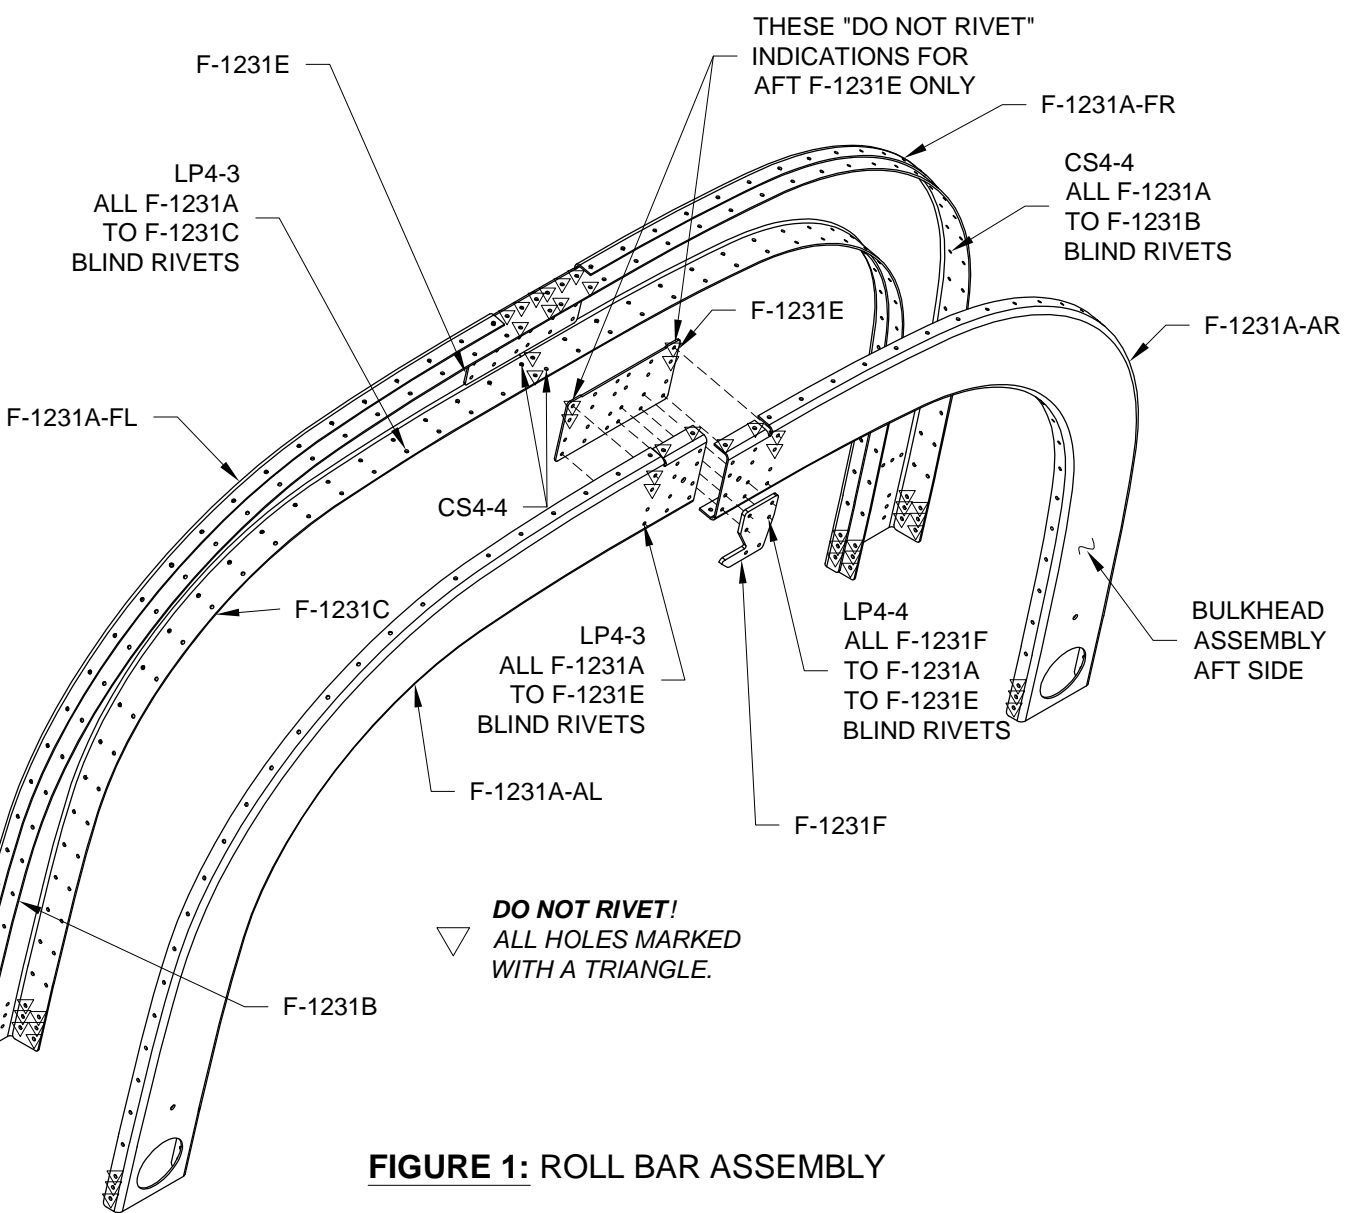

FIGURE 1: ROLL BAR ASSEMBLY
Step 1: Study Figure 1 to determine the forward edge, top and bottom of the F-1231B & C Roll Bar Straps.
Run the roll bar straps back and forth over the edge of a table to add a curvature to the parts. Be careful not to let the parts kink across the rivet holes. The curve does not have to be the final installed shape but enough to allow easy assembly of the roll bar. Deburr the edges of all parts used to create the Roll Bar Assembly. Cleco all of the parts of the Roll Bar Assembly together as shown in Figure 1.
Step 3: Disassemble the roll bar parts, then machine countersink the **outer flanges** of the F-1231A-FL, -FR, -AL and -AR Roll Bar Frames for the head of the rivets that will eventually lay underneath the canopy except holes common to the F-1231D Roll Bar Bases. Machine countersink the two holes on the inside lower center face of the roll bar that will get flush blind rivets. See Figure 1.
CAUTION: Do not rivet the locations marked with a triangle in Figure 1 until later in the assembly process!
Step 4: Rivet the F-1231F Latch Plate to the F-1231A-AR Roll Bar Frame and aft F-1231E Splice Plate as shown in Figure 1.
Step 5: Rivet the F-1231A-FL, -FR, -AL & -AR Roll Bar Frames to the F-1231B & C Roll Bar Straps and F-1231E Splice Plates per the callouts in Figure 1 to create the Roll Bar Assembly.